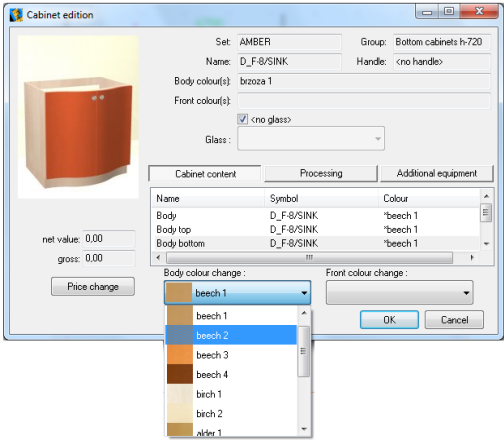

Fig. 303 – changing a front colouring
- **Change body or front colour** – available in the **Cabinet content** tab (Fig. 303);